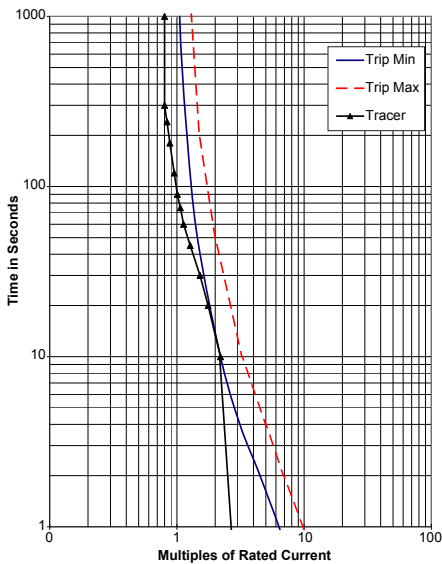

Fig. 9a: Typical North American Breaker Trip Curve Maximum Amps - at 80% Loading
Step 1 - When the S/R 10-2 normalized current response is applied to the North American circuit breaker minimum trip curve the offset or loading factor is found to be 80%. (Refer to Fig. 9a)